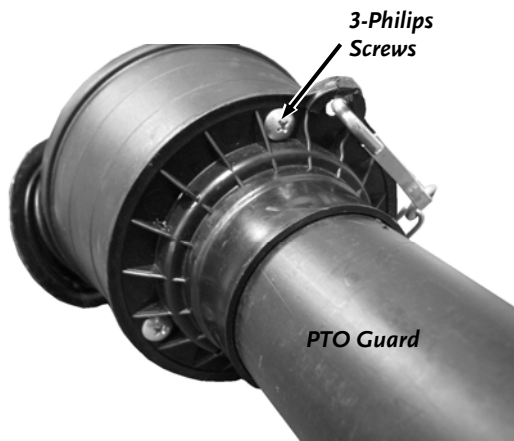

Figure 17
2. Remove the 3 Philips Screws from the PTO shaft Halves (**Figure 17**). Remove the PTO Guard.